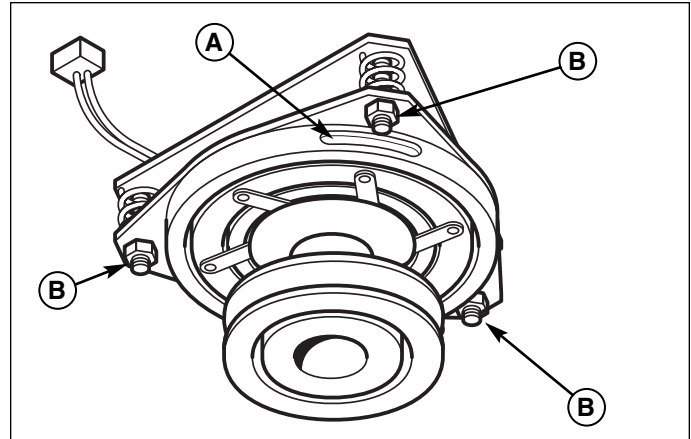

Figure 44. PTO Clutch Adjustment
2. See Figure 44. Note the position of the 3 adjustment windows (A) in the side of the brake plate and the nylock adjustment nuts (B).
4. Alternately tighten the adjustment nuts (B, Figure 44) until the rotor face and armature face just contacts the gauge.